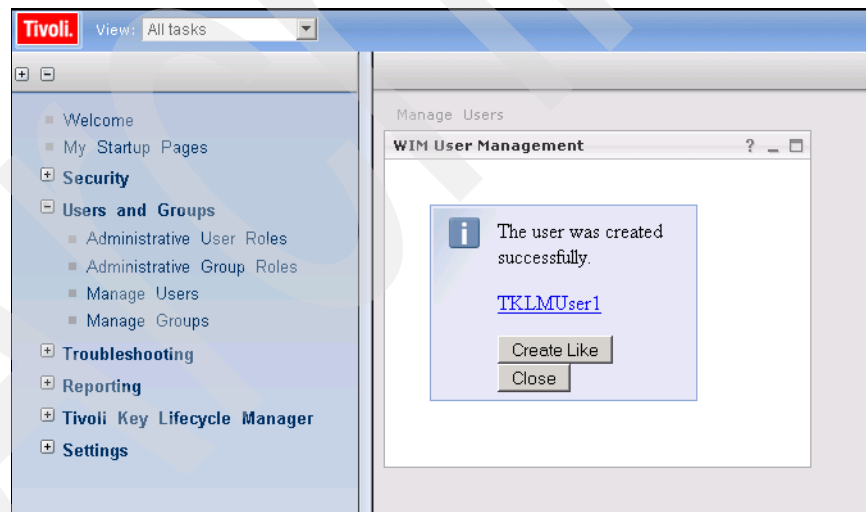

Figure 9-6 User created successfully
6. The panel returned shows that the user was successfully created (Figure 9-6). Click **Close**.